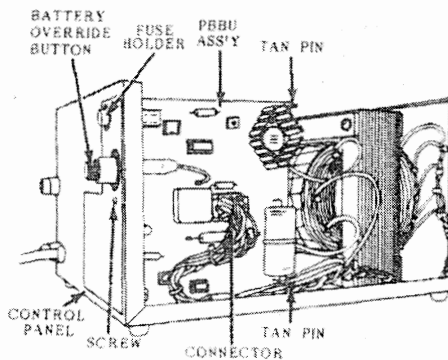

FIGURE 11
02.22 Unwrap the PBBU and locate the screw in the PBBU's mounting bracket (Figure 11). Remove and save the screw.
02.23 Slip the PBBU's battery protection fuse holder and the battery override button through their respective ports in the control panel (Figure 11). The PBBU's mounting bracket should be
02.25 Use the previously removed screw and secure the PBBU mounting bracket to the control panel. See Figure 11.